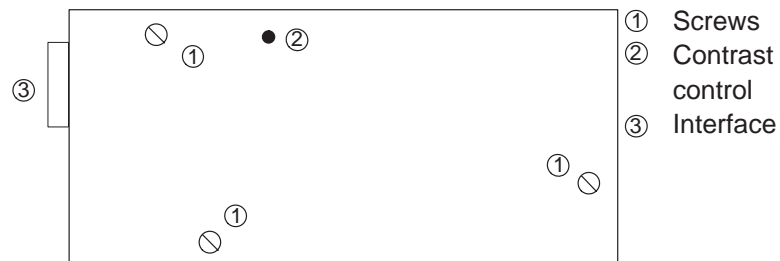

Figure 13-1 Rear of the OP3 Showing Screw Connections
1. Remove three screws on the rear of the housing (Figure 13-1).